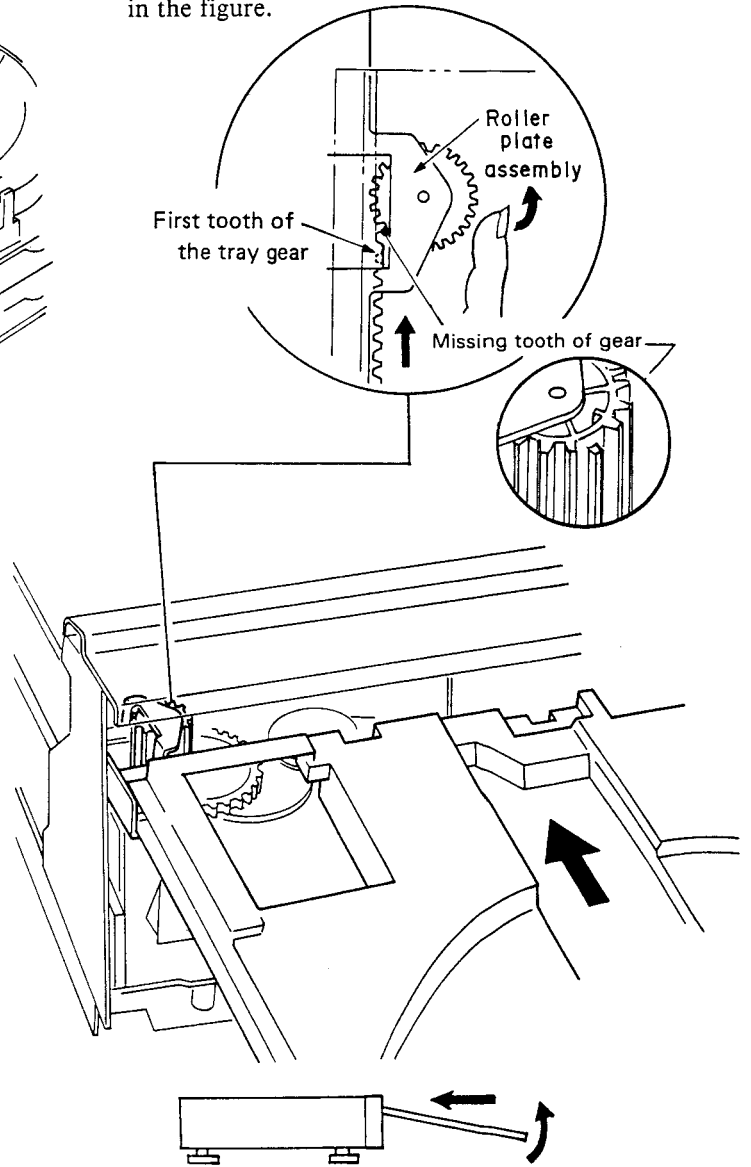
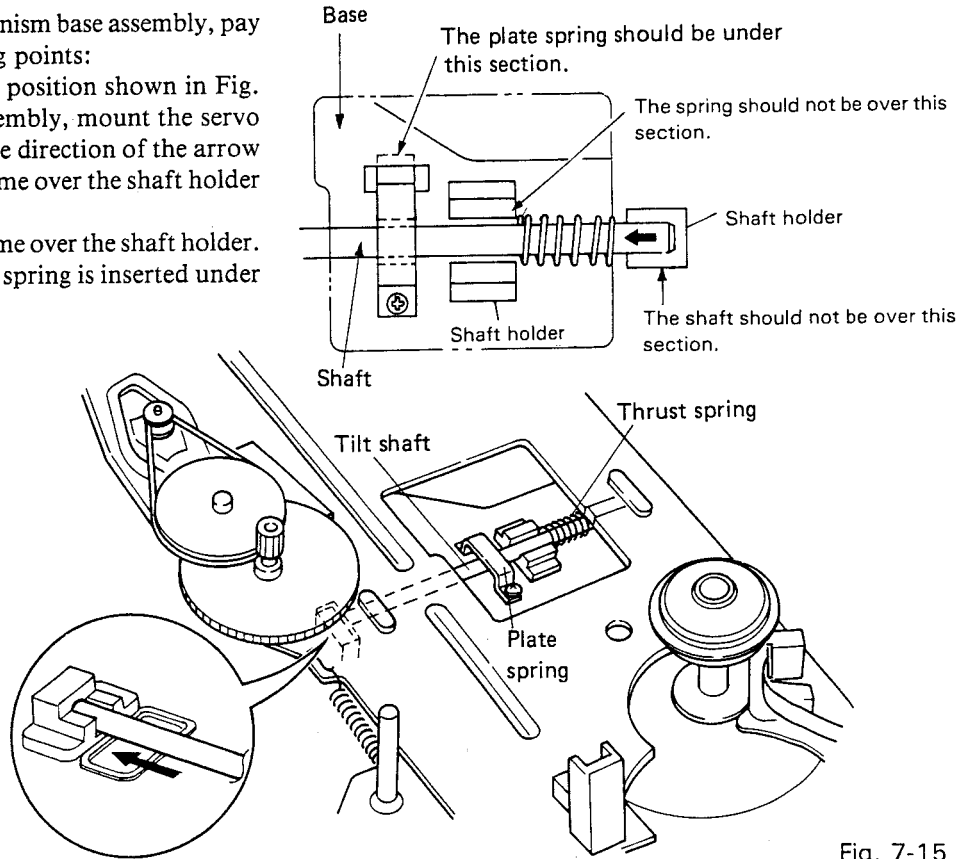

Fig. 7-14
Fig. 7-15
**2. POSITIONING THE TRAY (Fig. 7-14)**
- ① Set the player with the tray open.
- ② Set the roller plate gear so that the roller plate line intersects with the mid-point of missing tooth of the roller plate gear.
- After inserting the shaft in the position shown in Fig. 7-14 of mechanism chassis assembly, mount the servo mechanism base assembly in the direction of the arrow so that the tilt shaft does not come over the shaft holder as shown in Fig. 7-15.